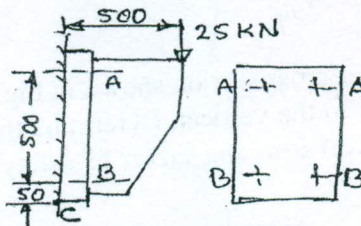

Fig. Q4 (b)
- b. A wall bracket is attached by means of 4 identical bolts, two at 'A' and two at 'B' and loaded as shown in Fig. Q4 (b). Assuming that the bracket is held against the wall firmly and prevented from tipping about the point C by all four bolts, determine the size of bolts taking an allowable tensile stress of 35 MPa and based on the maximum principal stress theory. (14 Marks)